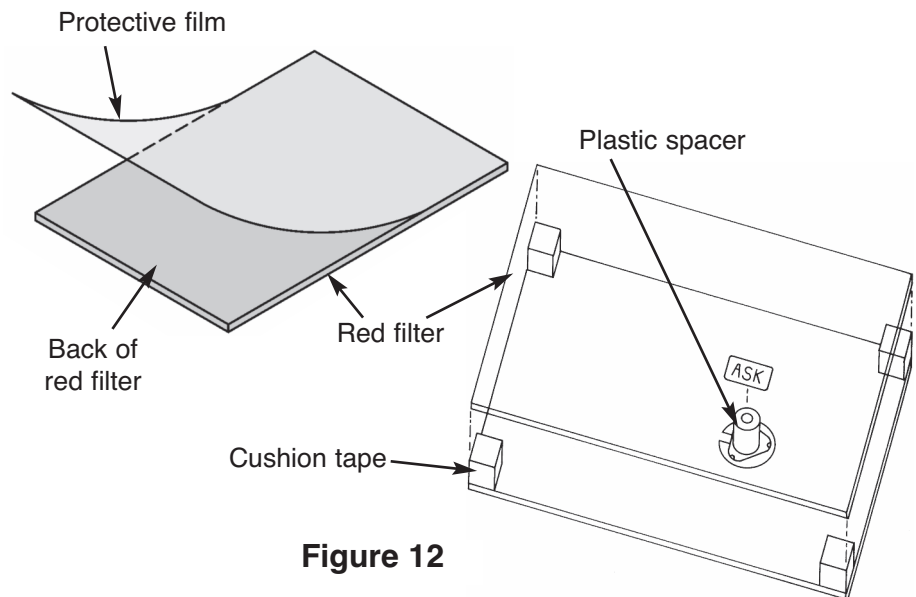

Figure 12
❑ Stick the 7/32" spacer onto the dimple switch as shown in Figure 12.
- ❑ Use scissors or single edge razor blade to cut the thick cushion tape into four 1/4" pieces. Peel off one of the protective layers and stick the tape to the corners of the PC board as shown in Figure 12.
- ❑ Remove the remaining protective backing from the cushion tape. Align the word ASK on the red filter with the 7/32" spacer and stick the filter to the cushion tape as shown in Figure 12.